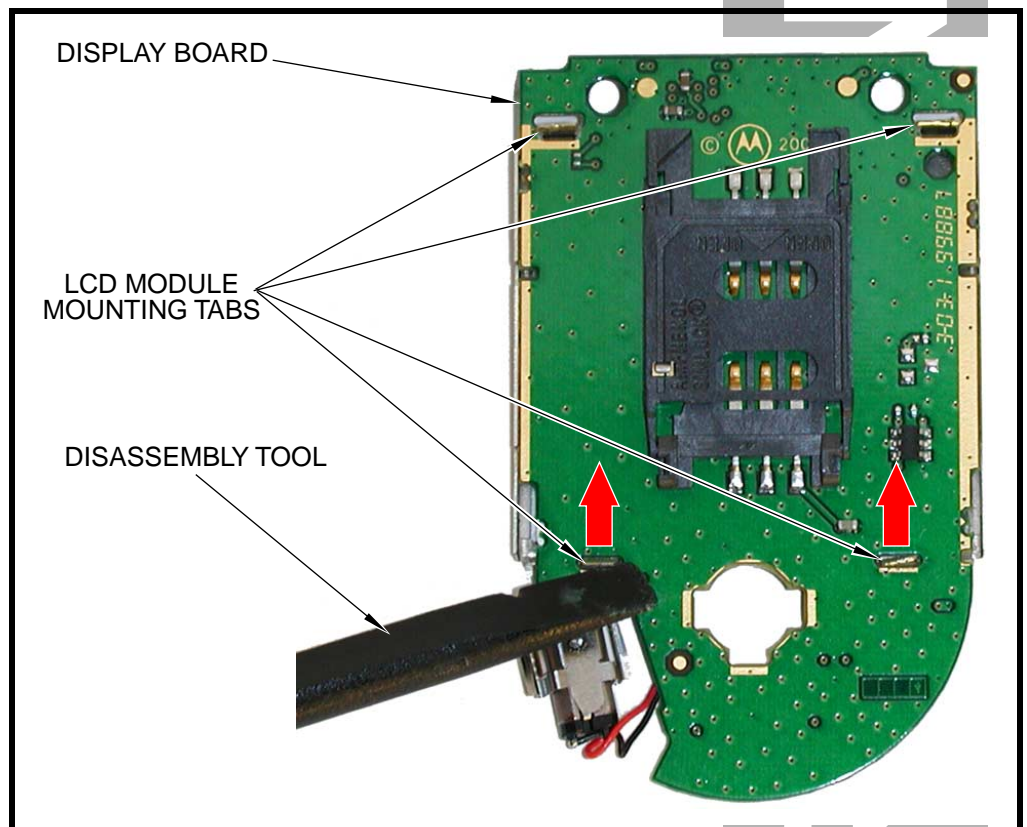

Figure 23. Releasing the LCD module mounting tabs
2. Locate the 4 LCD module mounting tabs shown in Figure 23.
6. Hold the LCD module tight against the display board and slightly bend the tabs shown in Figure 23 to fasten the module in place.